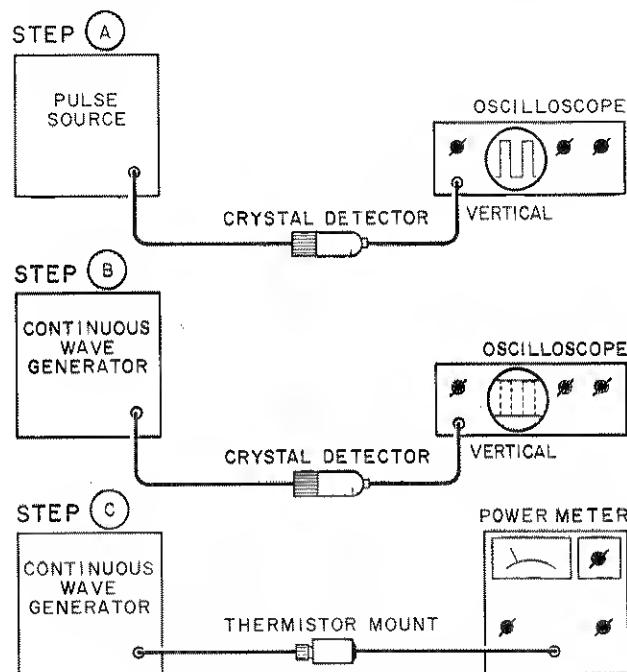

Figure 1. Peak Power Measurement
25. The power applied to the detector can be either modulated or continuous wave (CW). If modulated at a 1000 Hz rate, an SWR meter can be used as an indicator. For CW detection, a dc milliammeter or millivoltmeter can be used as the indicator.
27. Peak Power Measurement. The arrangement of equipment for peak power measurement is shown in Figure 1. The procedure involves calibration of an oscilloscope which, in turn, is used to calibrate a CW generator. The output of the calibrated CW generator is measured with a power meter; the peak power of a pulse is thereby measured. The procedure is as follows:
- a. Connect equipment as shown in Figure 1, step a. Observe pulse on a dc-coupled oscilloscope. Using a marking pencil, mark on the graticule the base-to-peak amplitude of the pulse envelope.